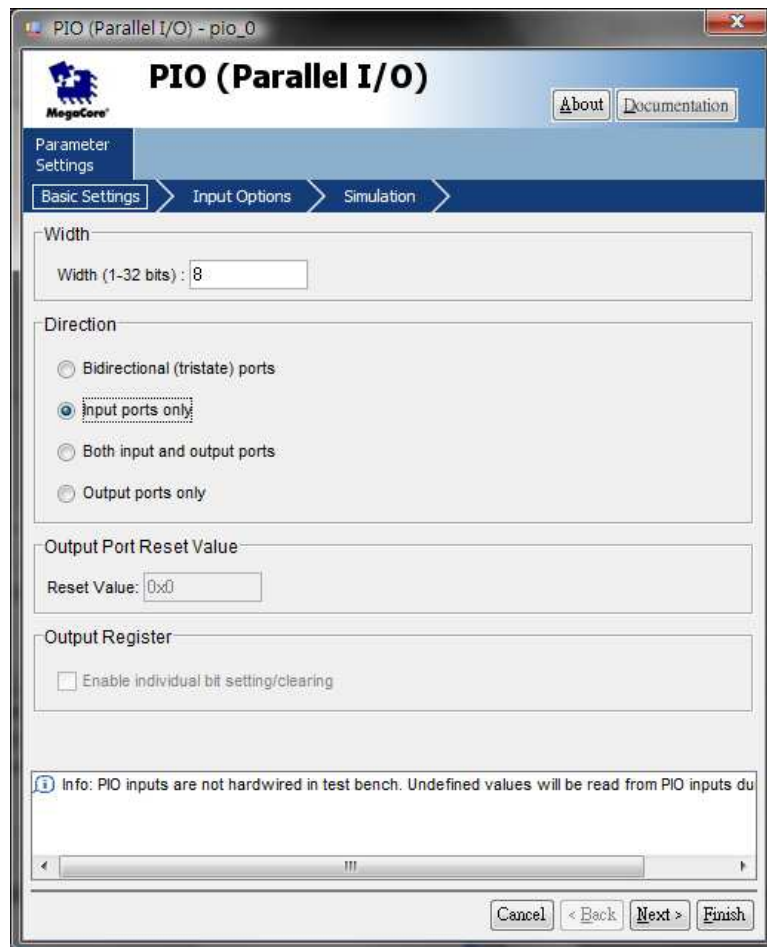

Figure 10. Define a parallel input interface.
- Select **Peripherals > Microcontroller Peripherals > PIO** (Parallel I/O) and click **Add** to reach the PIO Configuration Wizard in Figure 10